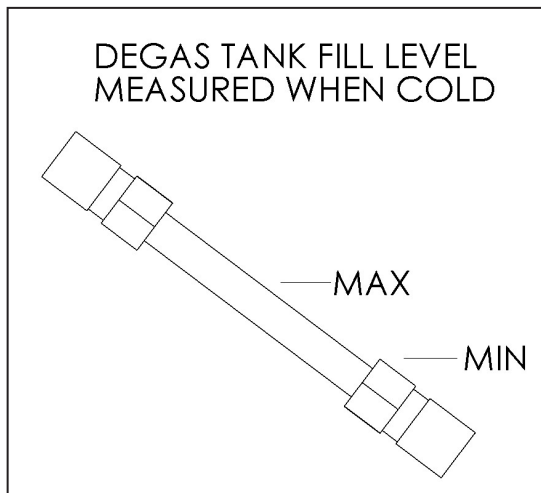

Figure 111 — Degas fill level
- ☐ Fill the VMAC degas tank with the coolant saved from the primary coolant system (Figure 111).